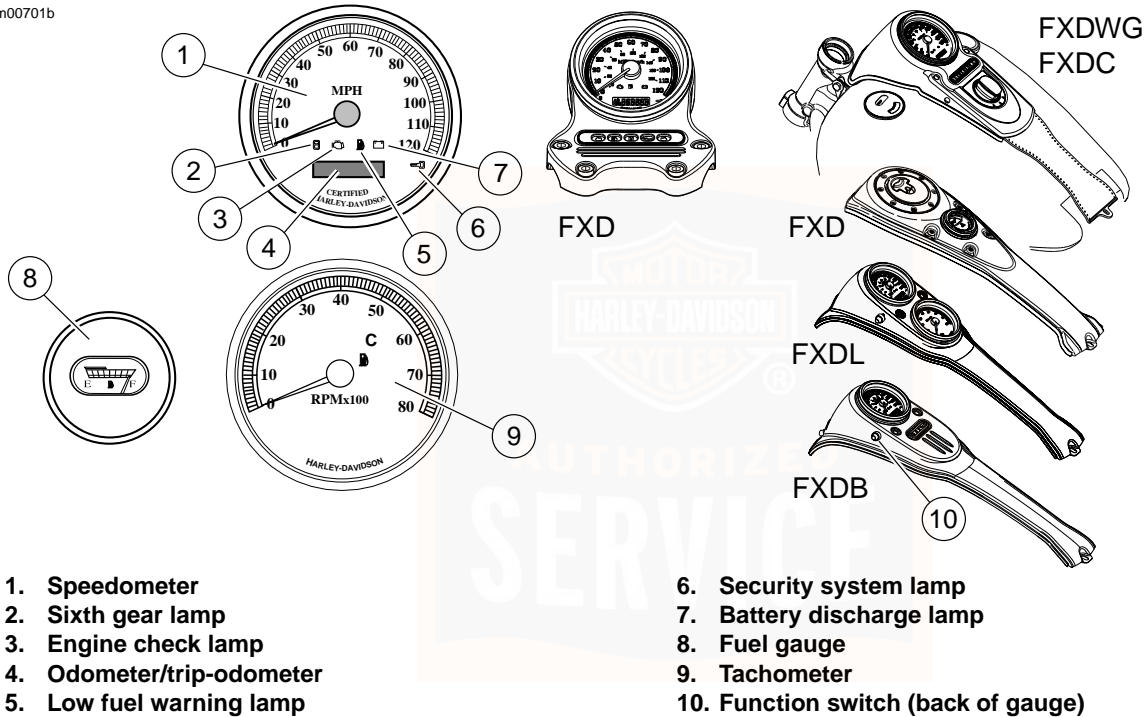

Figure 7. Instruments: Dyna Models
See Figure 7. The speedometer registers miles per hour (U.S. models) or kilometers per hour (international models) of forward speed. The speedometer also provides the following selectable functions:
1. See Figure 7. Pressing the function switch with the ignition switch in any position will activate the odometer reading and time. Time and mileage or kilometers may be checked without unlocking ignition switch. Press and release function switch once to view odometer. Press and release switch again to display time.
2. See Figure 7. Press function switch until time (hour and minutes) is displayed. Press and hold the function switch for five seconds or until 12HR begins to blink in the speedometer display window. Release the button.